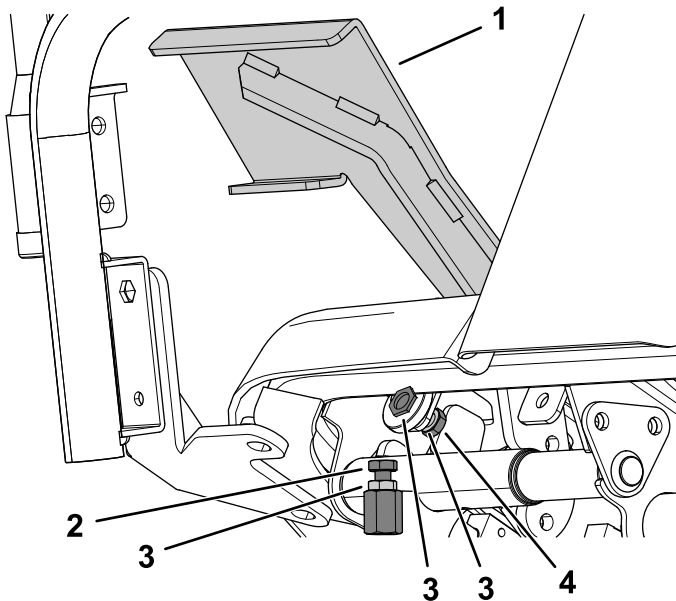

Figure 96
1. Move the traction pedal fully forward (Figure 96).
- A. Using a wrench, hold the forward traction-pedal stop and loosen the jam nut on the back side of the bracket (Figure 96).
- B. Move the traction pedal to the desired position (Figure 96).
- C. Adjust the jam nut on the back of the bracket until traction-pedal stop contacts the traction pedal (Figure 96).